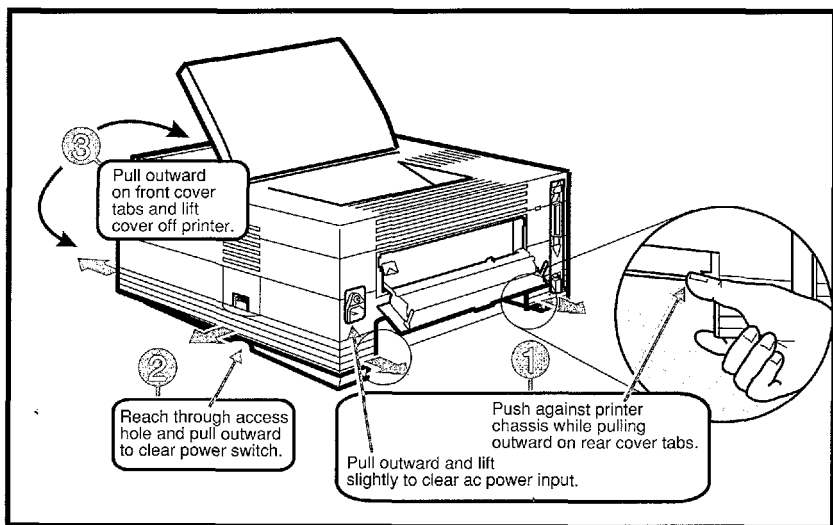

Figure 6-9 Removing the Cover (LaserJet 4P/4MP)
8. Pull outward on the two rear cover tabs to release pressure and lift slightly. Be sure to pull outward enough to clear the ac power receptacle (Figure 6-9, callout 1).
9. Reaching through the access hole (Figure 6-9, callout 2), pull outward to clear the power switch.
10. Turn the printer around and pull outward on the two front cover tabs to release pressure while lifting (Figure 6-9, callout 3). Once all cover tabs are free and the ac input and power switch are clear, lift the cover straight up carefully.